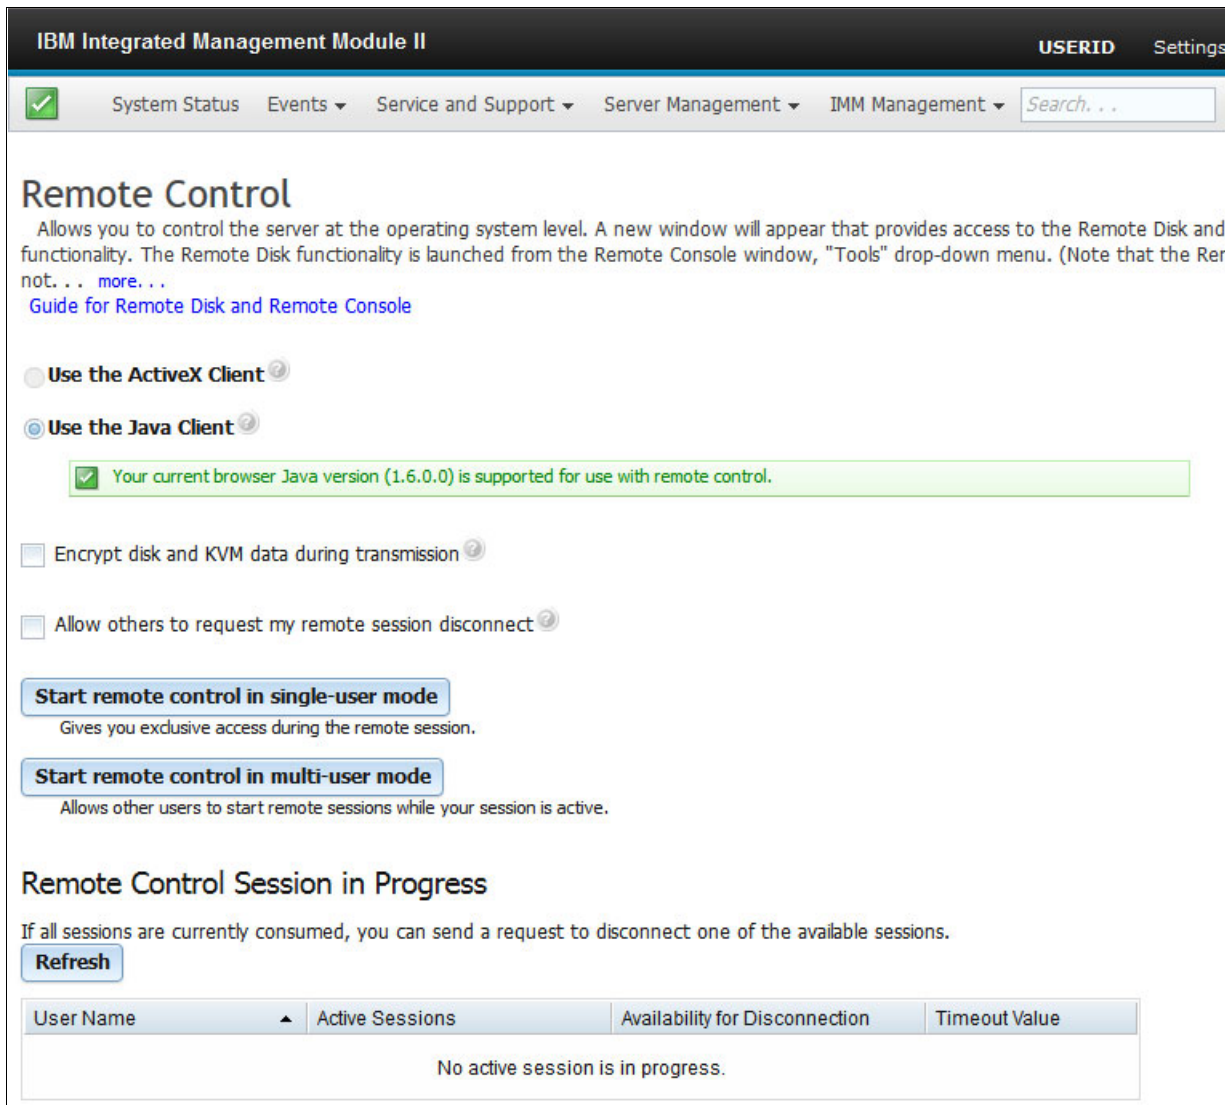

Figure 6-3 Starting remote console from IMM2
- In the Remote Control window, click **Start remote control in single-user mode**, as shown in Figure 6-3. Clicking this button starts a Java applet on the local desktop that will be a console session to the FSM.